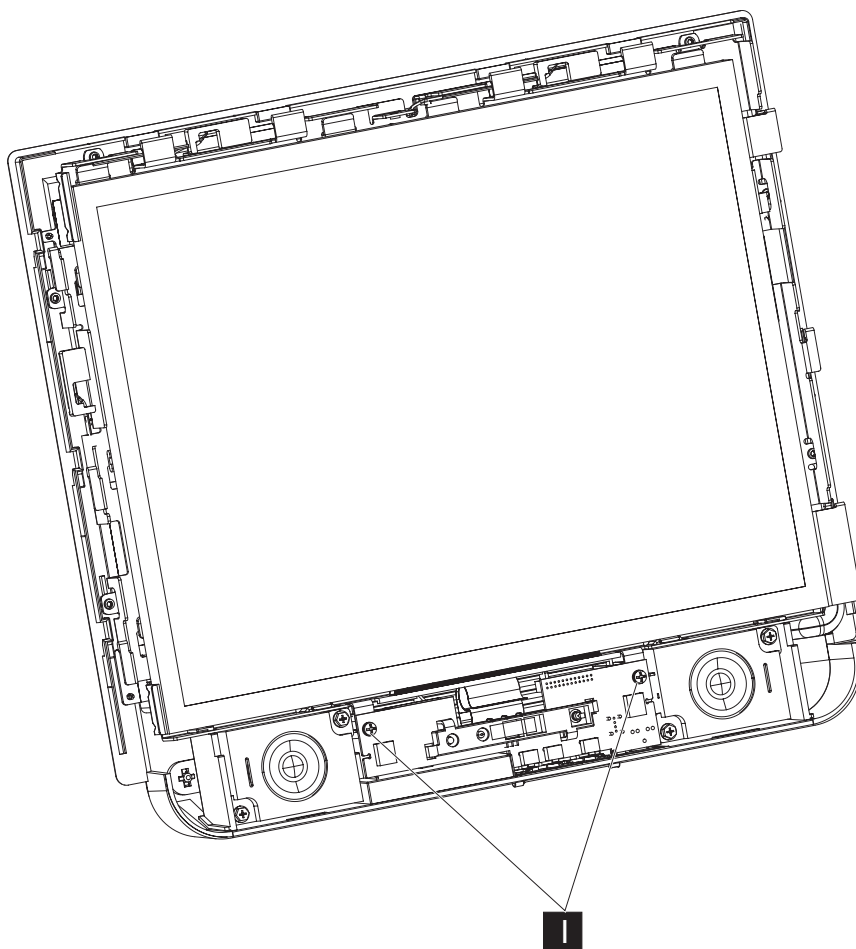

Figure 37. Removing the control card
3. Remove the two screws (**I** in Figure 37) that hold the control card in place, and lift out the card